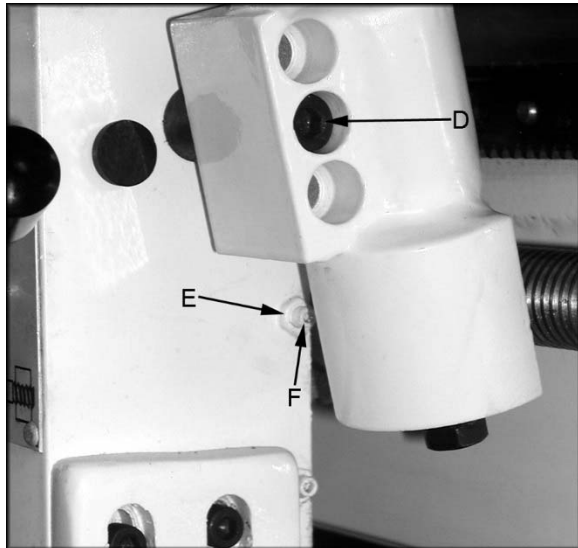

Figure 21
1. Remove the thread dial assembly by unscrewing the screw (D, Fig. 21).
2. Loosen three hex nuts (E, Fig. 21) found on the side of apron, and turn three set screws (F, Fig.21) equally with a hex wrench.